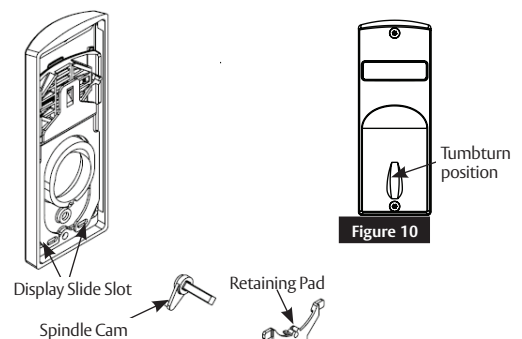

Figure 9
1. Remove retaining pad and spindle cam from assembly. (Figure 9)
3. Slide spindle cam post into correct slot of display slide. (Figure 9)